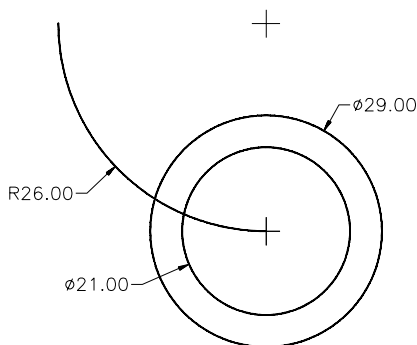

Figure 26-117 Sketch for base pipe feature
2. Choose **Views > Views > Left** from the **View** panel; the UCS is aligned to the left view. Next, draw the path and the cross-section of the sweep feature, as shown in Figure 26-117.